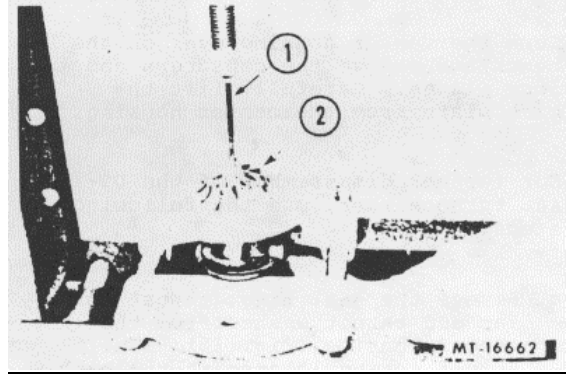

Fig. 16. Separating Compressor Wheel From Turbine Shaft
9. Support the center housing assembly on the arbor press as shown in Fig. 16. Grind the radius on the end of a 1/4 inch bolt to fit the end of the shaft. Press the shaft from the compressor wheel.